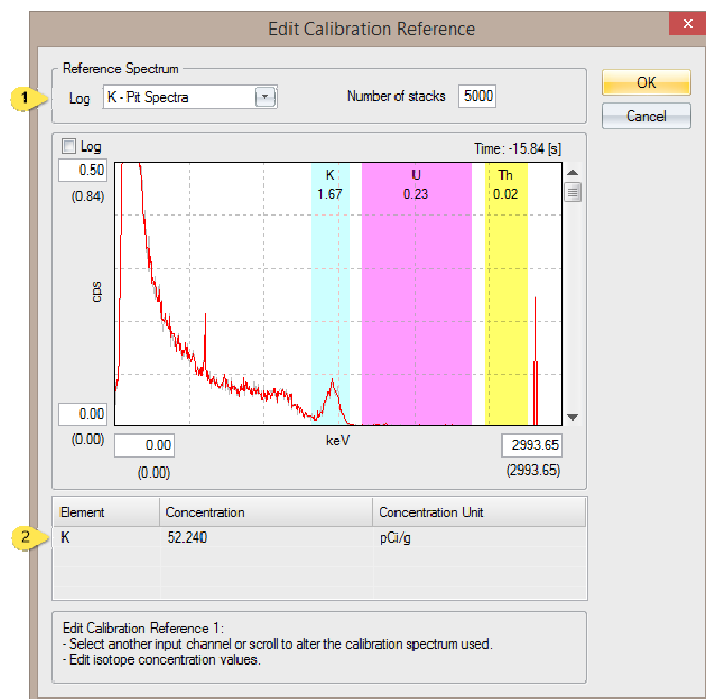

Figure 11 – Select a reference spectrum and provide the known concentration
Click on the **Add Element** button (4), select a radionuclide (e.g. K) and click on **Next** to choose a reference spectrum (figure 11 - 1) and enter the known concentration for this radionuclide (figure 11- 2). Click on **Finish** and start over with the next radionuclide (e.g. U).